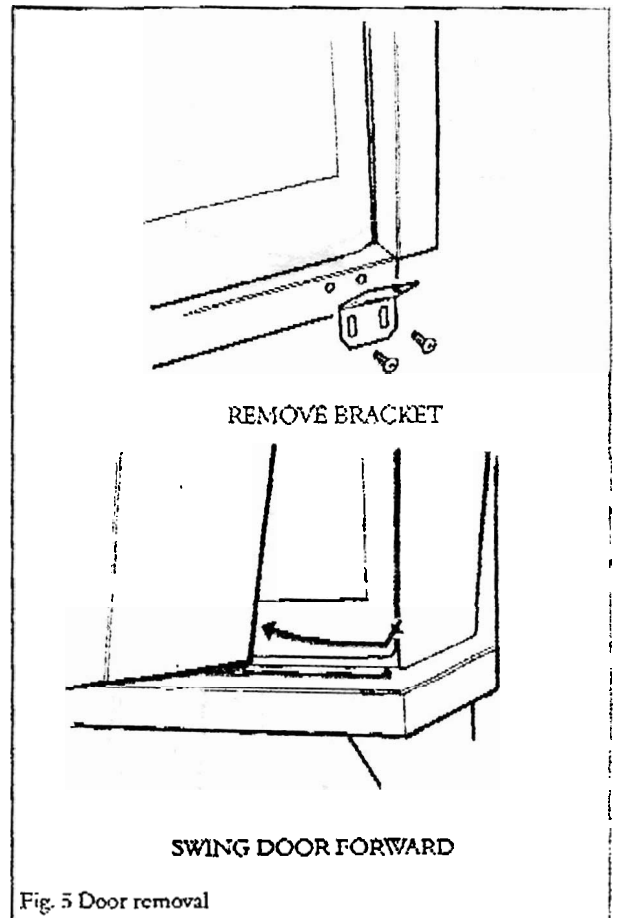

Fig. 5 Door removal
- 8.2.1 Detach the door retaining bracket (located near the rear right corner of the appliance main unit) by removing two screws (see figure 5).
- 8.2.2 Swing the bottom of the door forward to release the bottom pin from the slot in the case and lift the door clear (see figure 5).